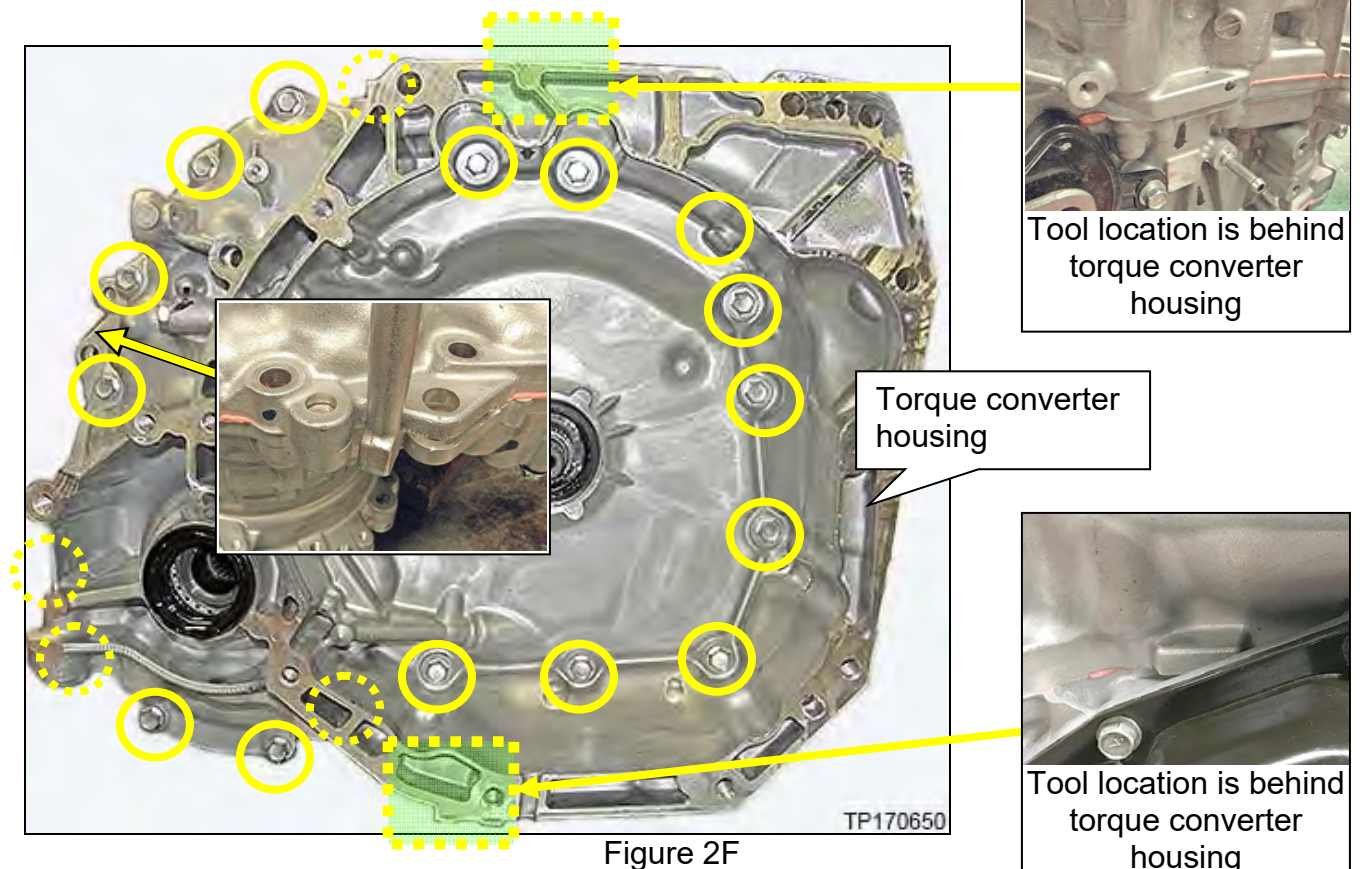

Figure 2F
3. Remove the nineteen (19) bolts shown in Figure 2F from the torque converter housing.
NOTE: Some bolts are not visible in Figure 2F. Yellow circles give the general area of bolt locations.
- Use a Slide Hammer (J-25721-A) at the three locations shown in Figure 2F if needed.